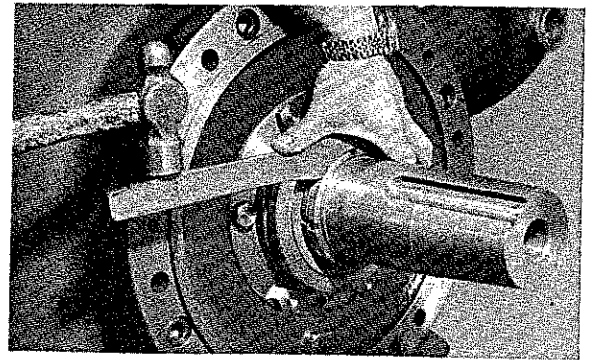
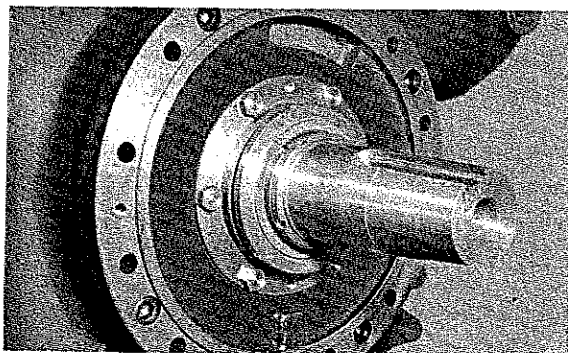

Fig. 71 Removing locknuts
Fig. 70 Shaft seal without cover plate
- a. When the shaft seal mechanism is as shown in Fig. 70, remove the locknuts (8) using extreme care to avoid scratching the moving surface of the shaft seal collar (9). (Ref. Fig. 71)